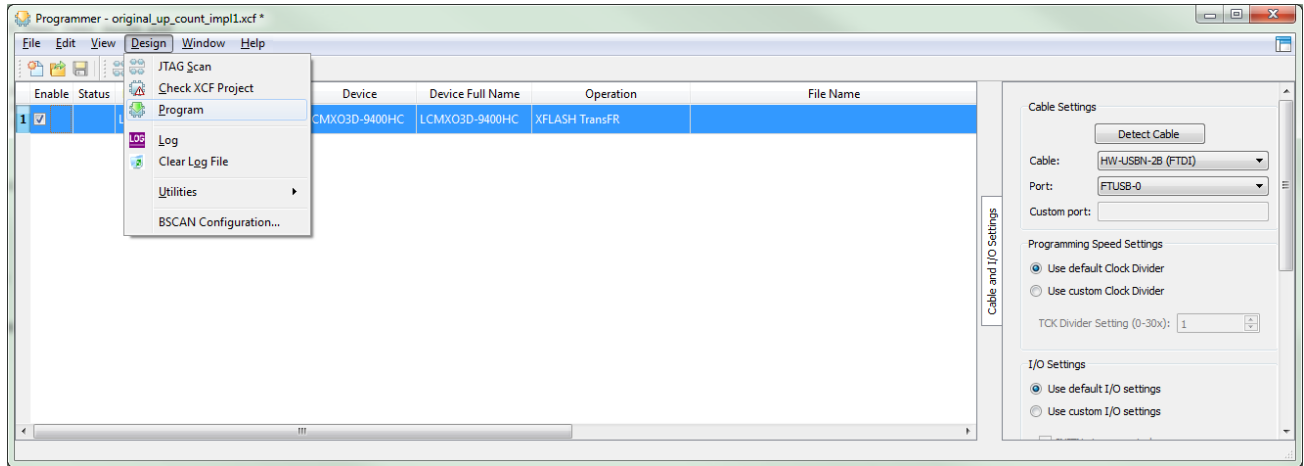

Figure 6.17. Programming the Device
6. Select **Design > Program** (Figure 6.17) or click the **Program** button () from the toolbar to execute the Flash-to-SRAM transfer.